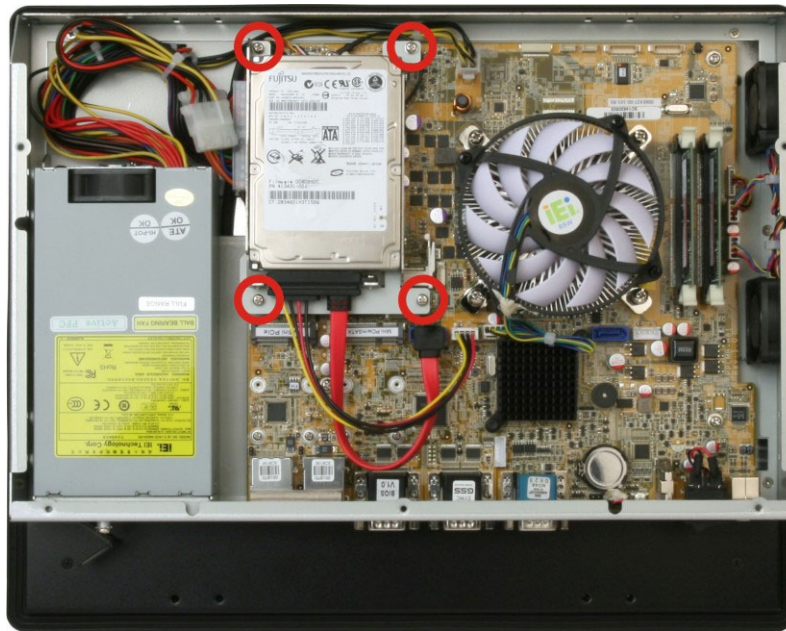

Figure 3-4: Replacing the PPC-F15A/F17A-H81 HDD Bracket
Step 5: Reinstall the HDD bracket into the PPC-FxxA-H81 and fasten the four hard drive bracket screws (**Figure 3-4**).